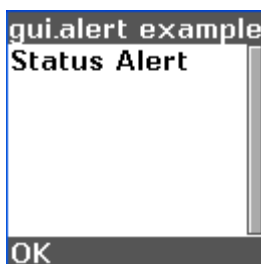

Figure 8 – `gui.alert` Example
Displays the alert shown in Figure 8 and waits until the operator presses the enter key or the left softkey (OK).